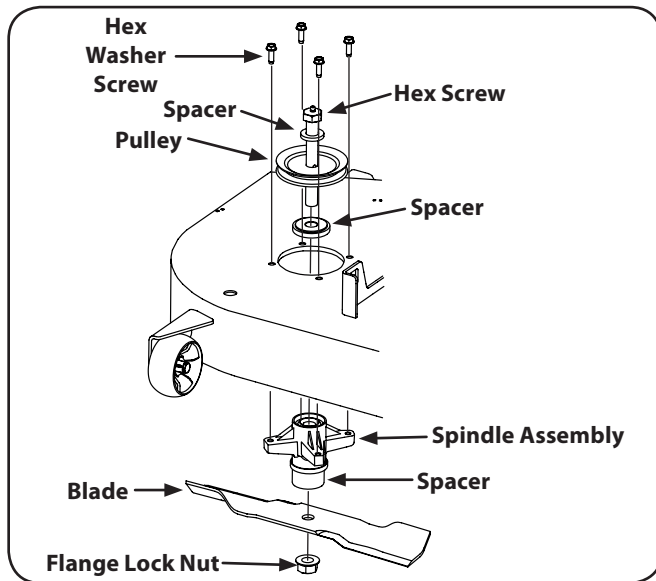

Figure 7-12
3. Use a $\frac{3}{4}$ " wrench to hold the hex nut on top of the spindle assembly when loosening the hex nut securing the blade. A block of wood may be placed between the deck housing and the cutting edge of the blade to help in breaking loose the hex nut securing the blade. See Fig. 7-12.